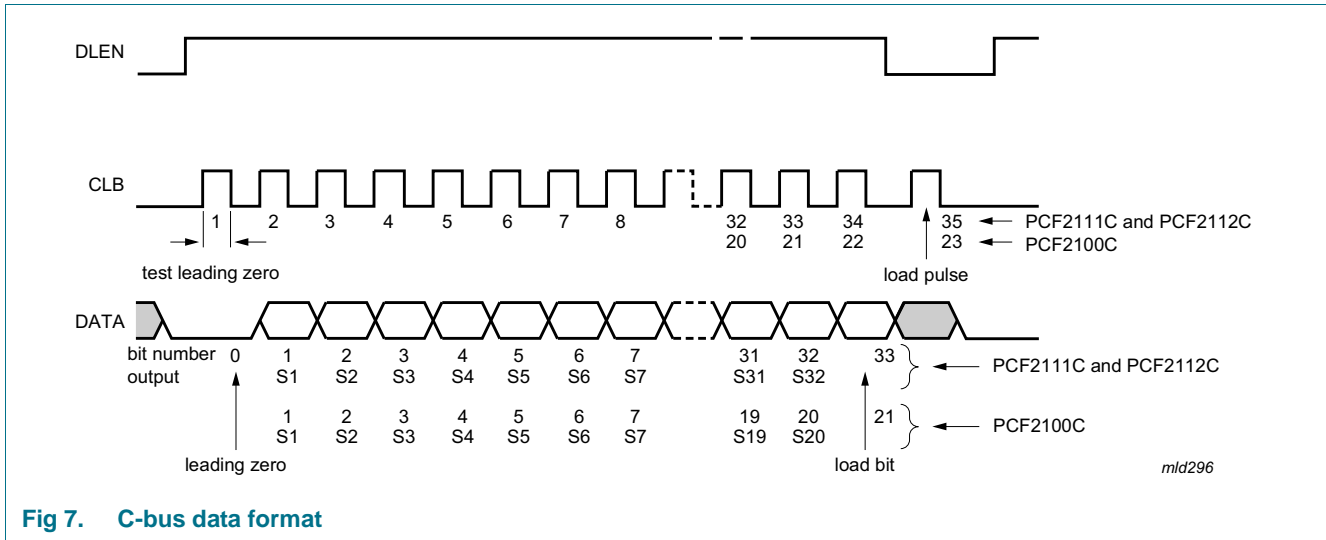

Fig 7. C-bus data format
An LCD segment or LED output is activated when the corresponding DATA bit is HIGH; see Figure 7.
- (1) Load pulse 23 for PCF2100C; see Figure 7.
- (2) Load pulse 35 for PCF2111C and PCF212C; see Figure 7.